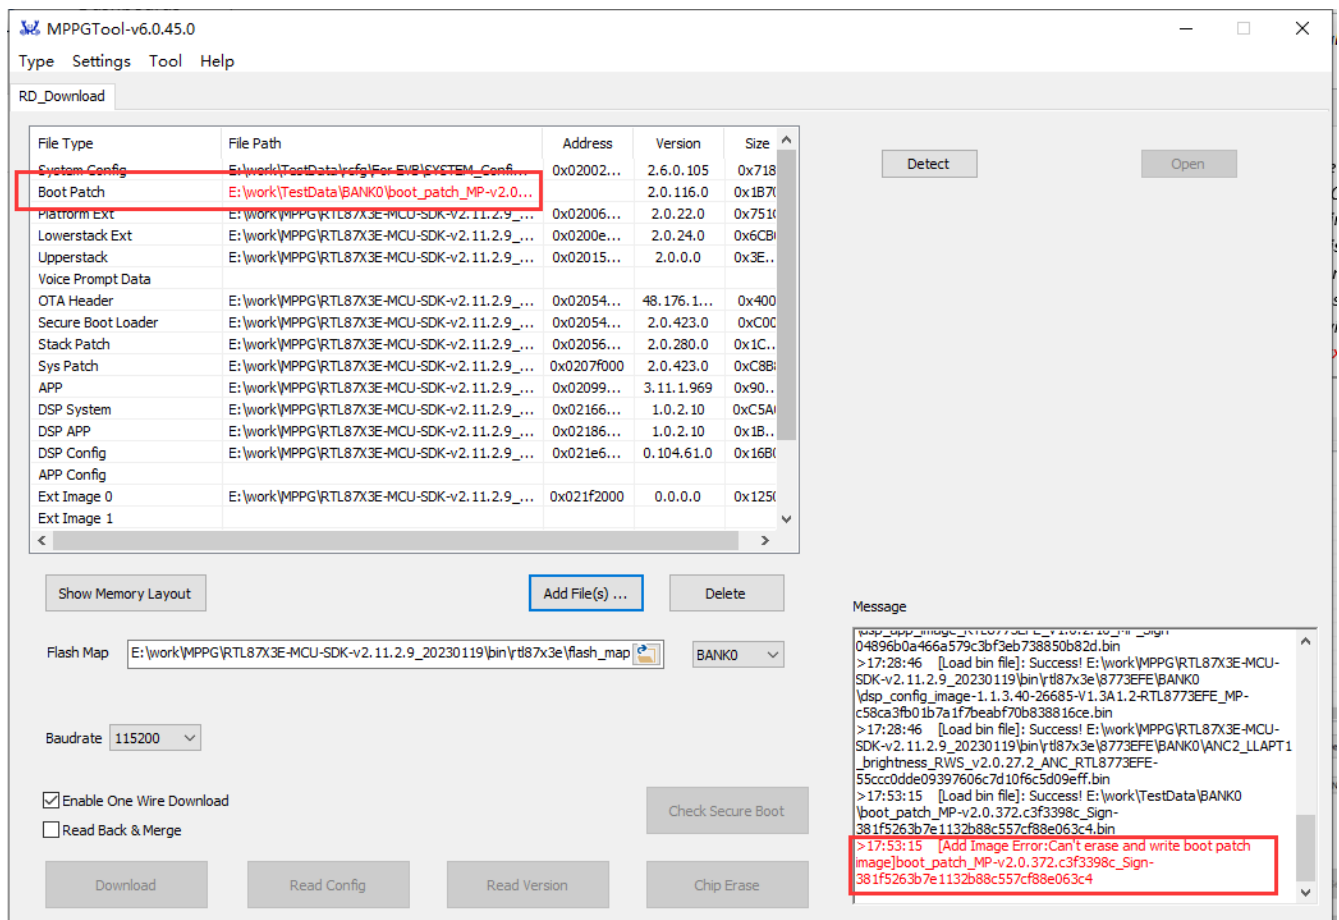

Figure 2-56 Add Boot_patch Image Error
- 1) Can't erase and write boot patch image if 'Enable One Wire Download' checked (Figure 2-56).